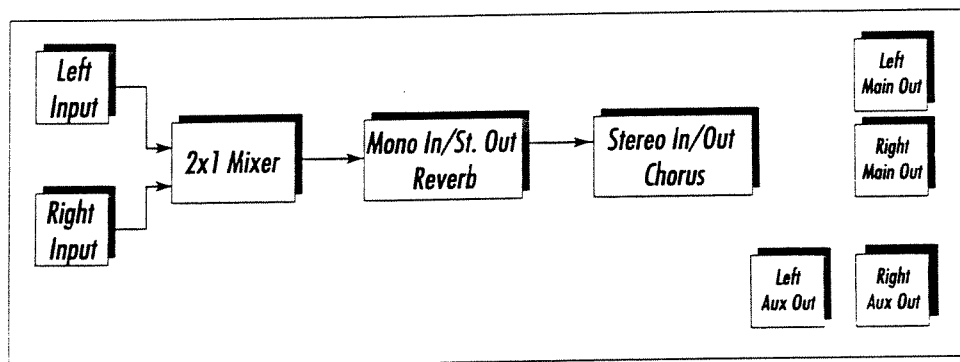

Fig. 3-7.
9. Use the Parameter <+> button to scroll until the top line reads MVERB OUT 1. Output 1 of the MFX Reverb is now connected to input 1 of the stereo chorus. The Algorithm routing looks like figure 3-7: